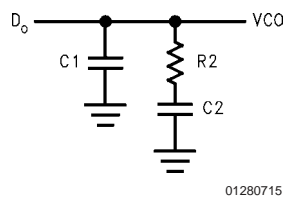

FIGURE 3. Passive Loop Filter
VCO gain (K_{VCO}/s), and the loop filter gain $Z(s)$ divided by the gain of the feedback counter modulus (N). The passive loop filter configuration used is displayed in *Figure 3*, WHILE the complex impedance of the filter is given in equation 2.